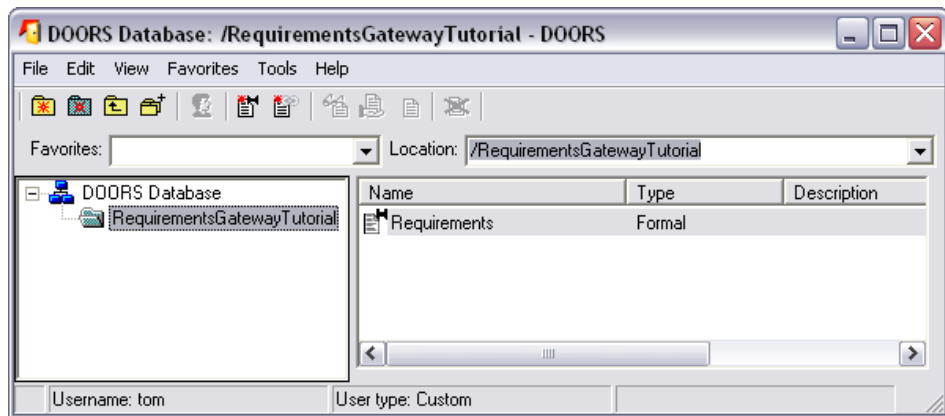

Figure 10-3. DOORS Database
6. Select the **RequirementsGatewayTutorial** project in the tree view to display the Requirements module in the list view, as shown in Figure 10-3.